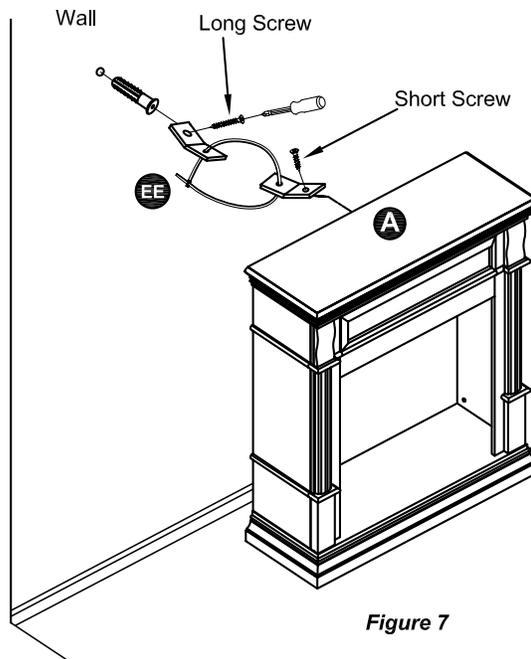

Figure 7
7. Install Anti Tip Kit (EE), as shown in Figure 7.
8. After assembling the mantel, lift to the upright position. Carefully, push the fireplace insert from the front of the mantel, as shown in Figure 7.